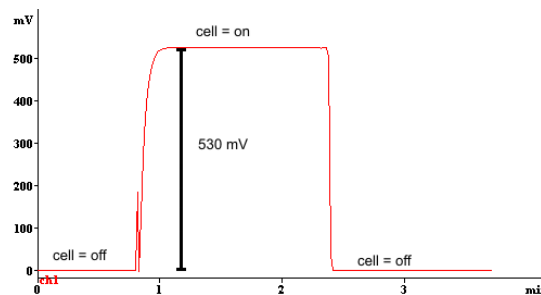

Fig. 2. Measuring output with dummy cell off and on at 5 nA/V, for other settings see Table I.
4. Calculate the difference in output voltage measured with 'Cell on' and 'Cell off' (Fig. 2).